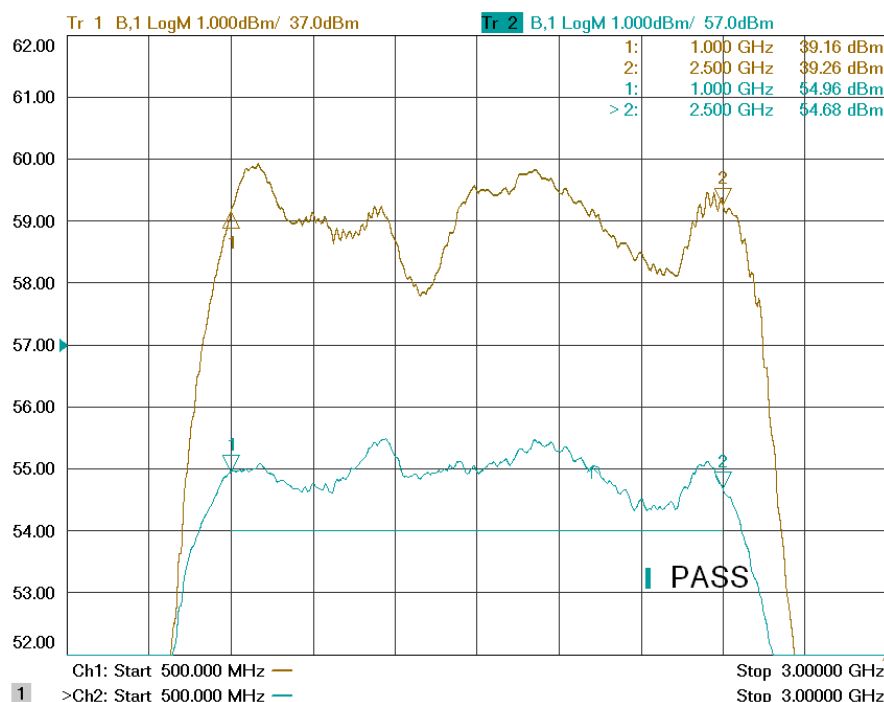

Figure 4-1. Typical Response at -20 dBm and 0 dBm Input
- The Model 250S1G2z5B's typical gain response at 0 dBm input and -20 dBm input is shown in Figures 4-1 and 4-2. The actual gain may vary considerably from that shown in Figure 4-1 but should be ≥ 57.0 dBm. PSAT (0 dBm Input) should be ≥ 54.0 dBm. *NOTE: If the overall gain is low, the amplifier chain can be separated at the input of A3 Four-Way Splitter.*